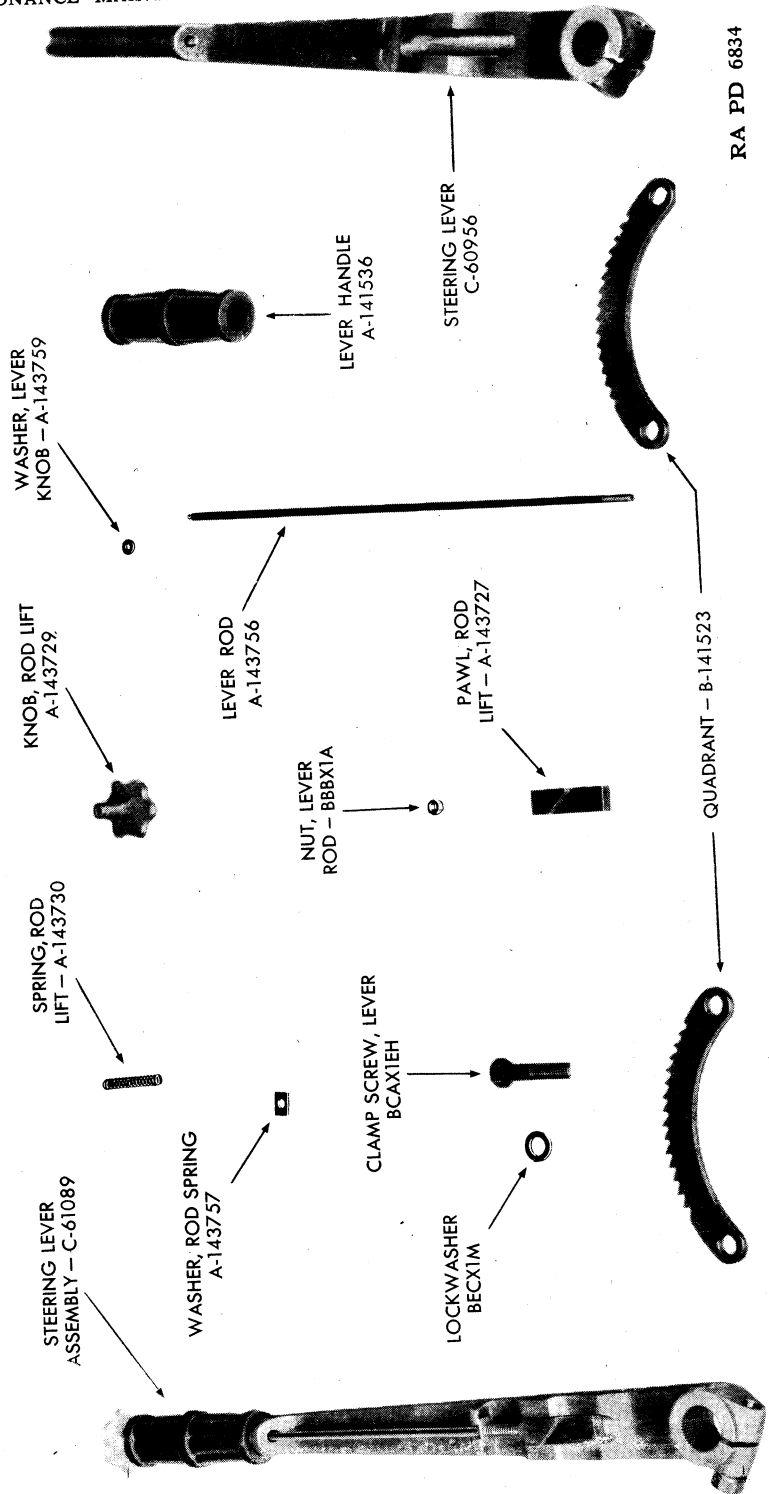

FIGURE 59—Steering lever group.
28. **Steering brake hand levers (fig. 59).**—Replacement of steering brake hand levers will usually be done by the using arm. However, the replacement and repair may at some time have to be done by ordnance personnel. Instructions given in this paragraph deal with replacement, disassembly, repair and reassembly of the steering brake hand levers.
b. Replacement of right steering brake hand lever.—For removal proceed as in a. above, steps (1) through (4). Then disconnect brake lever connecting link in bow gunner's compartment and drive or pry shaft out of steering brake hand lever. Install right steering lever by reversing removal procedure.
c. Disassembly (fig. 59).—Press brake lever rod PAWL (A143727) toward HANDLE (A141536) compressing SPRING (A143730). Maintain pawl and rod in this position. Loosen lock NUT (BBBX1A) (5/8-in. wrench, open end). Screw lever rod out of pawl using a pair of pliers. Remove ROD (A143756) with KNOB (A143729) and WASHER (A143759). Clean all parts using dry cleaning solvent. Carefully check condition of pawl and the milled section of the lever where the pawl rides. If the pawl shows wear in excess of .020-in., replace pawl. Slight wear, or a slightly rounded edge at the point where the pawl engages the QUADRANT (B141523) can be cleaned up and made serviceable by grinding. Any excessive wear is sufficient reason to replace pawl. Examine quadrant and if broken or rounded teeth are noted quadrant must be replaced. Replace rod spring if spring is weak or broken. If the rod or knob alone is to be replaced, it is necessary to remove the headed-over portion of the rod where it secures the knob retaining washer. When the necessary parts have been repaired or replaced reverse the disassembly procedure for assembly.